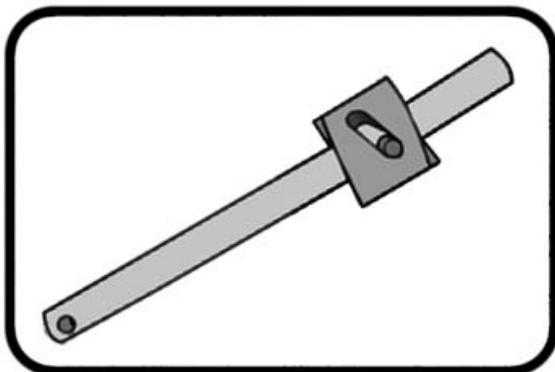

Fig. 8
**Step 7:** Isolate the Double Dog / Main Shaft Assembly. If requiring replacement, this entire assembly must be replaced. **(Fig. 8)**